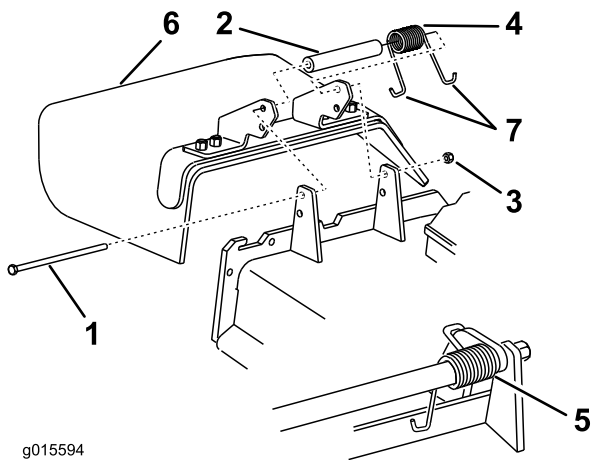

Figure 100
1. Remove the locknut, bolt, spring, and spacer holding the deflector to the pivot brackets (Figure 100).
**Note:** Make sure one J end of the spring is installed behind the deck edge before installing the bolt as shown in Figure 100.
4. Install the bolt and nut. Place one J hook end of the spring around the grass deflector (Figure 100).